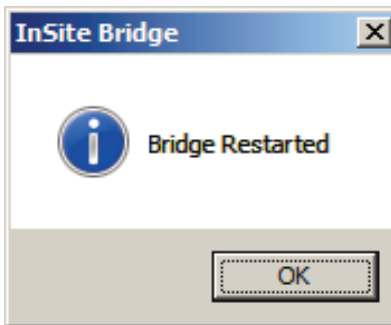

Figure 4.3 Bridge Restart
4. The bridge will automatically start and display a message as shown in figure 4.3